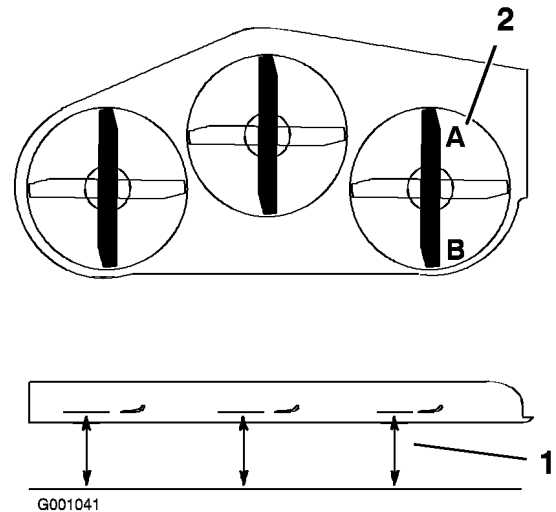

Figure 78
1. Position the right blade front-to-rear (Figure 78).
2. Measure the right blade at the **A** location, from a level surface to the cutting edge of the blade tip (Figure 78).
4. Measure the right blade at the **B** location, from a level surface to the cutting edge of the blade tip (Figure 78).
6. The mower blade should be a 1/4 to 3/8 inch (6 to 10 mm) lower at position **A** than at position **B** (Figure 78). If it is not correct, proceed to the following steps.